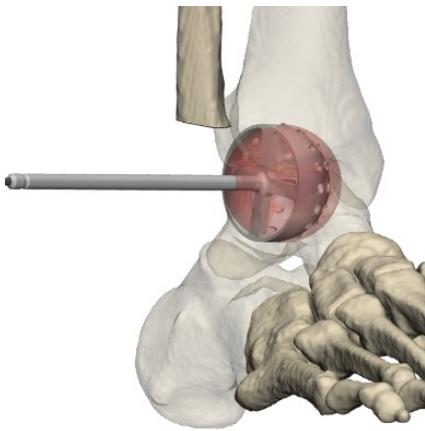

Fig. 4.5
**4.5.** If using a convex reamer in conjunction with a Half Pill implant, place 1.6mm guidewire in the center of the desired distal bone to be reamed. Ream using fluoroscopy to confirm adequate depth and size of the reamer. (fig. 4.5).